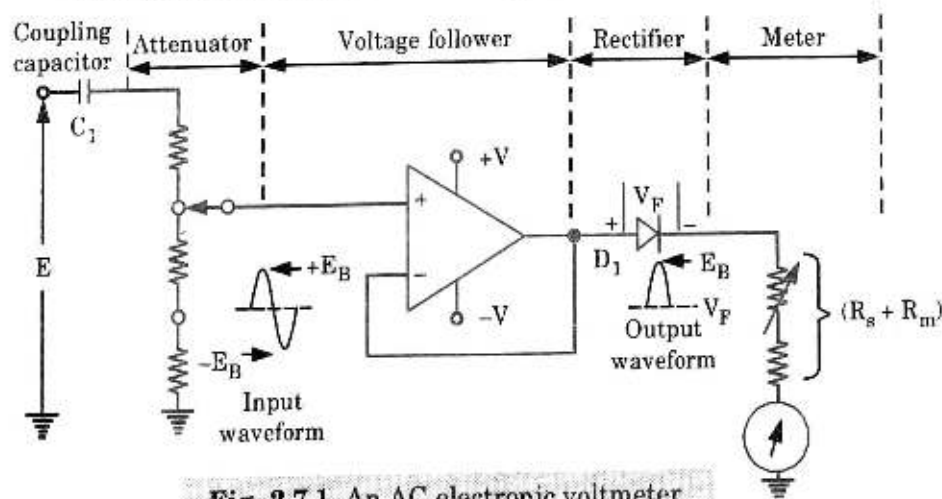

Fig. 2.7.1. An AC electronic voltmeter.
1. An Op-Amp voltage-follower AC voltmeter can be converted into an AC electronic voltmeter by connecting a rectifier in series with the meter circuit. Such a circuit is shown in Fig. 2.7.1.